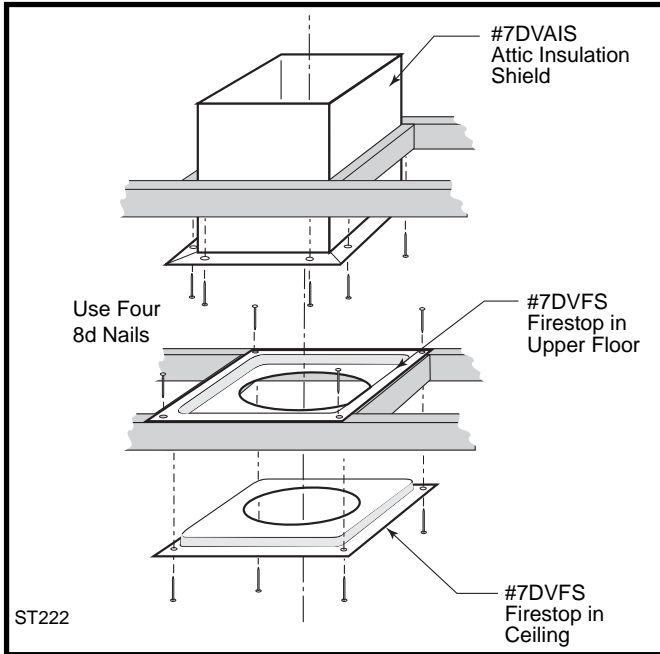

Fig. 33 Install firestops and attic insulation shield.
- Install firestop(s) #7DVFS and Attic Insulation Shield #7DVAIS as needed. (Fig. 33) If there is a room above ceiling level, a firestop must be installed on both the bottom and top sides of the ceiling joists. If an attic is above ceiling level, an attic insulation shield must be installed.